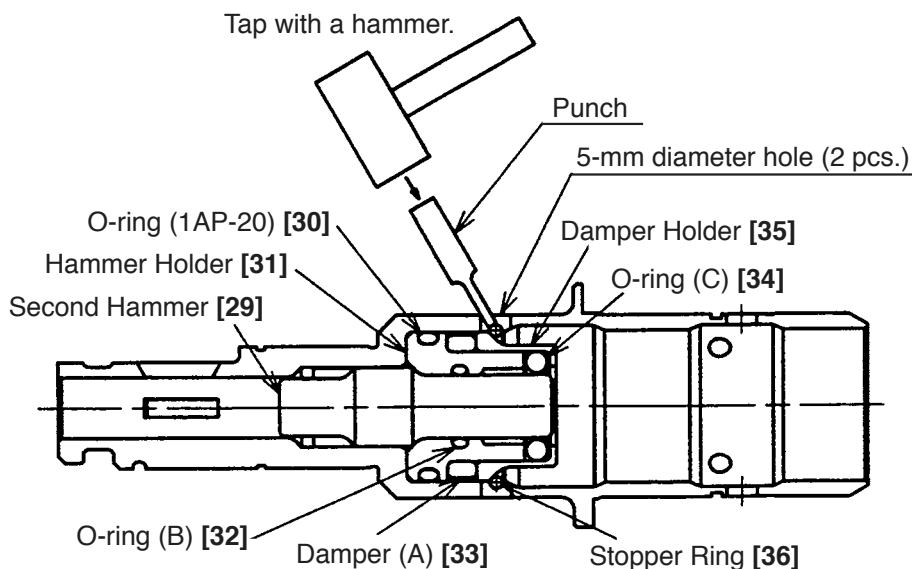

Fig. 18
(5) Removal of the cylinder and the second hammer
Remove the Stopper Ring [36] from the inside diameter portion of the Cylinder [24]. Then the Second Hammer [29], O-ring (1AP-20) [30], Hammer Holder [31], O-ring (B) [32], Damper (A) [33], O-ring (C) [34] and Damper Holder [35] can be removed from the Cylinder [24]. Remove the Stopper Ring [36] from the groove of the inside diameter portion of the Cylinder [24] by tapping the Stopper Ring [36] through the 5-mm diameter hole of the Cylinder [24] with a hammer and a punch as shown in Fig. 18. At reassembly, replace the Stopper Ring [36] with new one as the removed Stopper Ring [36] is deformed. To prevent idle hammering, also replace O-ring (C) [34] with new one at reassembly.